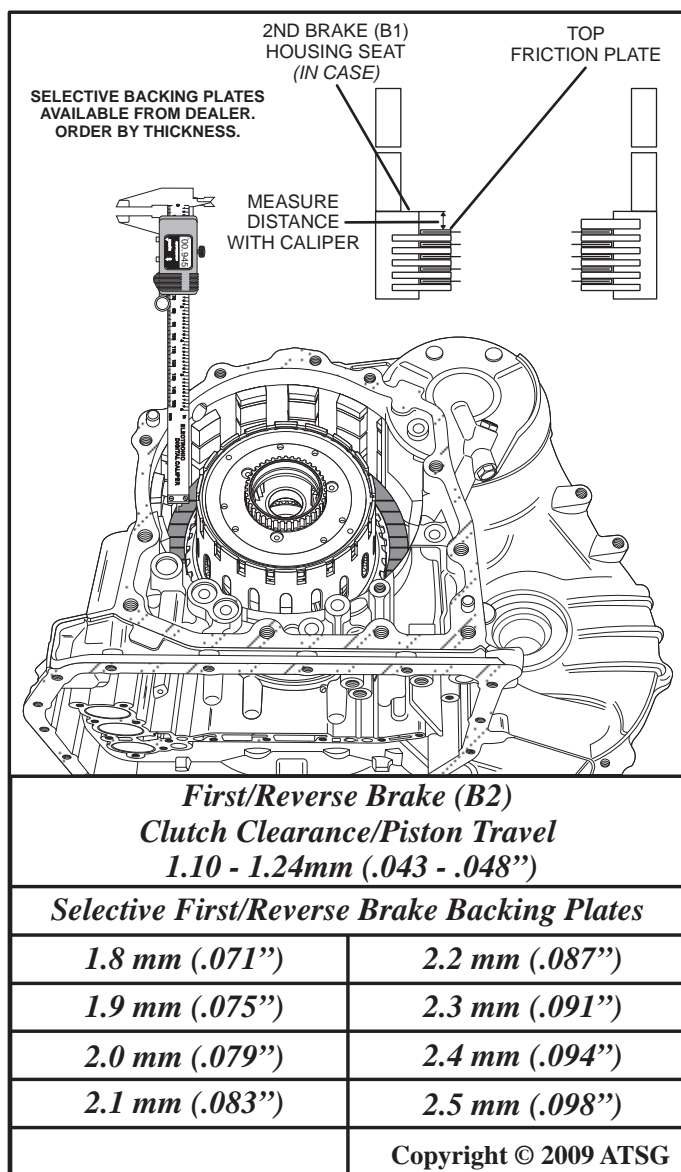

Figure 159
27. Check the first/reverse brake (B2) clutch clearance as shown in Figure 159.
28. Clutch clearance or piston travel should be **1.1 - 1.24 mm (.043 - .048 in.)** and is determined by using a vernier caliper and measuring the distance from the top friction plate to the seat in the case where the 2nd brake (B1) housing sits. Once the measurement is taken it can be referred to as "Dimension A". The thickness of the first/reverse brake (B2) backing plate is then measured and subtracted from "Dimension A". With this number, the proper selective backing plate can be determined and installed into the case according to the chart in Figure 159.